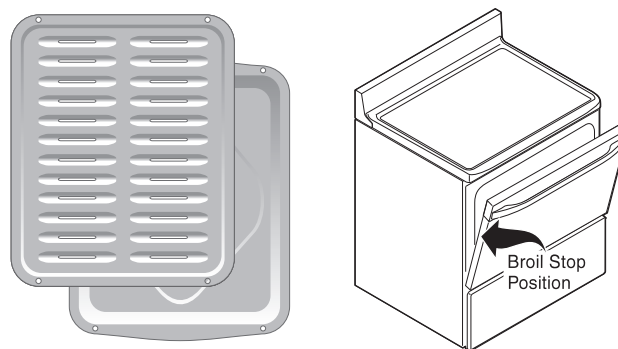

Figure 18: Broil pan and insert (L) Door in position when broiling (R).
6. Place the broiler pan and insert on the oven rack. Broil with the oven door open to broil stop position (Figure 18).